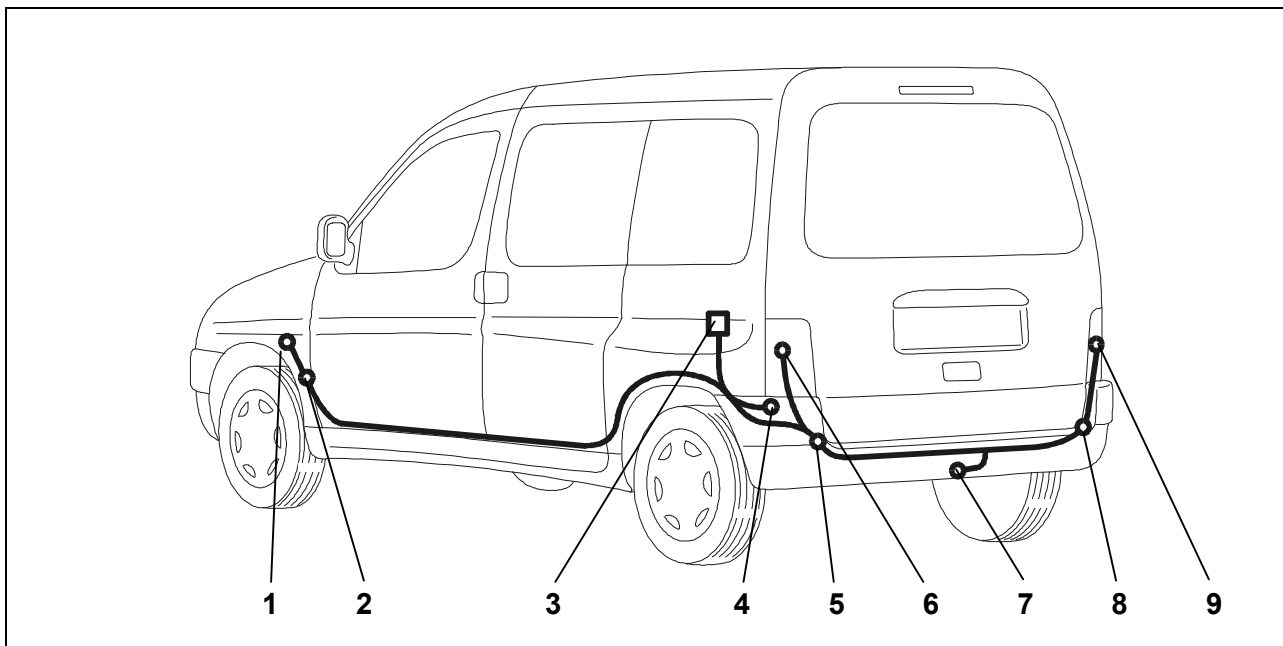

Fig. 1: Installation Overview
- Starting in the luggage trunk through the cable leadthrough (Fig. 1/5) under the left tail light opening to the outside